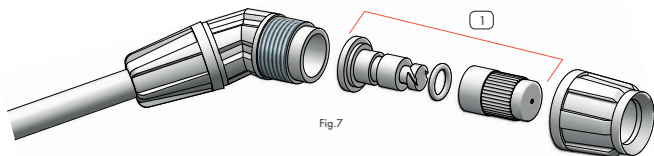
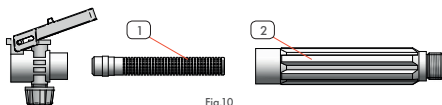

Fig.7
Fig.10
Point the lance tip (fig. 7) at the location to be sprayed.
The filter (fig. 10/pos. 1) located on the lance handle (fig. 10) and the adjustable nozzle (fig. 7/pos. 1) located at the lance tip (fig. 1/pos. 1) must be cleaned periodically and before any prolonged downtime.
Clogged adjustable nozzle on the lance tip (fig. 7/pos. 1).	Unscrew the lance tip and remove adjustable nozzle (fig. 7/pos. 1). It can be disassembled into individual components, cleaned and reassembled.